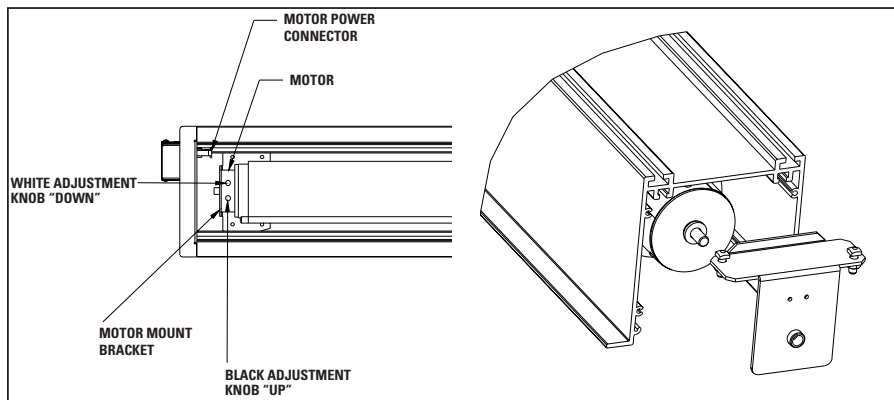

FIGURE 1
3. To install screen and roller assembly, insert the motor end into the motor mount bracket as shown in Fig. 1.
2. When the screen stops, turn the white **"down"** limit knob (Fig.1) one turn counterclockwise. Test by raising picture surface approximately two feet, then lower again. Repeat until desired picture surface position is attained.
3. Turn the white **"down"** limit knob (Fig. 1) one turn clockwise. Test by raising picture surface approximately two feet, then lower again. Repeat until desired picture surface position is attained.